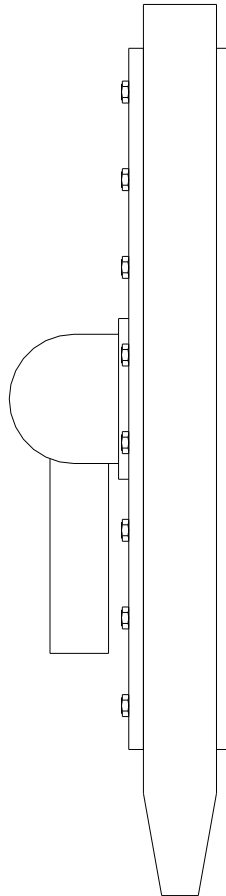

Fig 2
- 4) Rotate position of plate so the bladder is facing downwards (fig 2). Ensure the plate is securely held. Use a 19mm open-ended spanner to remove the filler bung located between the power input cable glands.